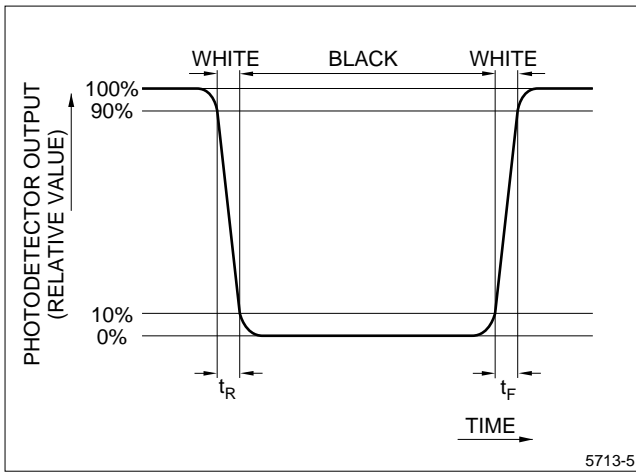

Figure 6. Definitions of Response Time
- The Response Time is measured as shown in Figure 6 by switching the input signals for 'black' ON and OFF.